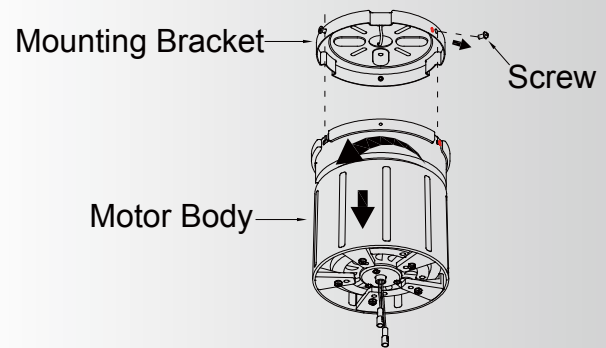

Fig. 5
Step 1. Remove the screws from the round hole near the red dot label and Save them for use in future. Loosen (do not remove) the screws in the mating slots on the motor body. Rotate the mounting bracket and remove from the canopy. (Fig. 5)